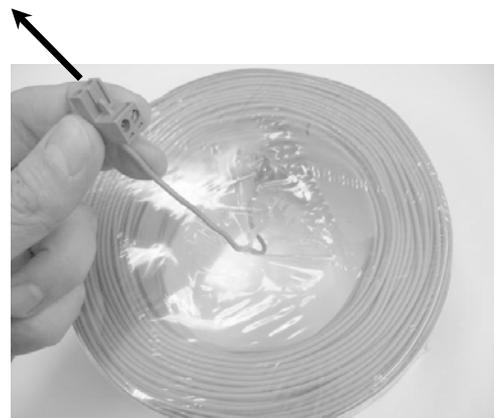

Figure 1.12 – Pull out the wire from the plastic covering – do not remove the covering; it is designed as a dispenser.
- Puncture the plastic covering of the perimeter wire and pull the wire ends with the plot connector out of the plastic covering; The connector should be connected to the wire in the polarity show in Figure 1.12;